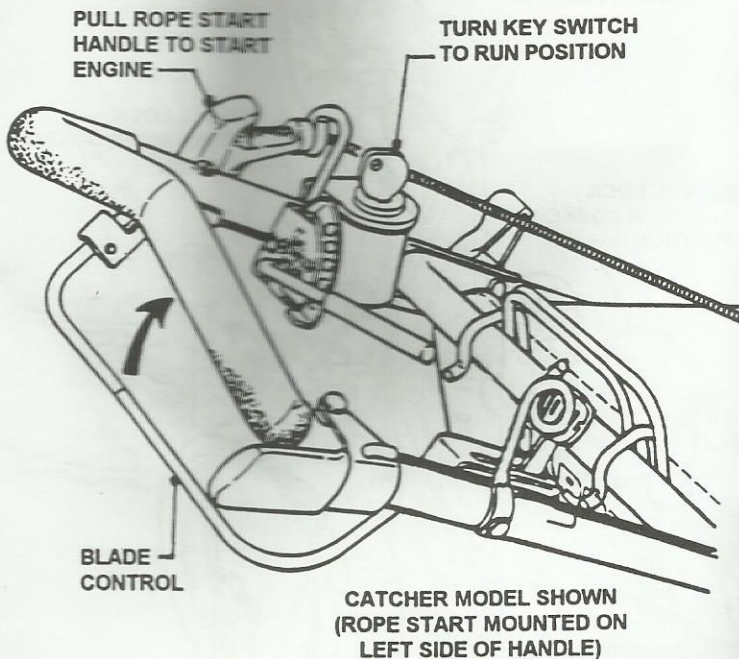

FIGURE 2.4
1. Move engine speed control to the "Fast" (Rabbit) position. See Figure 2.4.
3. Pull rope start handle until engine starts. See Figure 2.4.